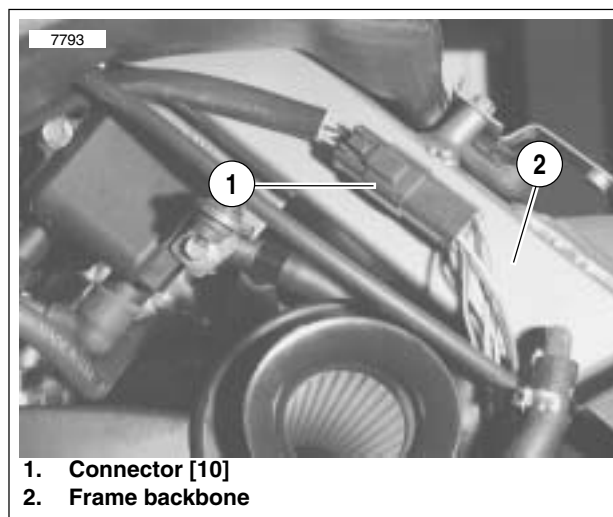

Figure 7-17. Integrated Ignition Module Connector [10]
See Figure 7-17. The ignition module is integrated with the cam position sensor on the module plate in the gearcase cover located on the right side of the motorcycle. The integrated ignition module is not repairable. Replace the unit if it fails.
4. See Figure 7-17. Disconnect connector [10] located on the left side of the frame backbone.
5. See Figure 7-17. Mate connector [10] and install to T-stud on frame backbone.